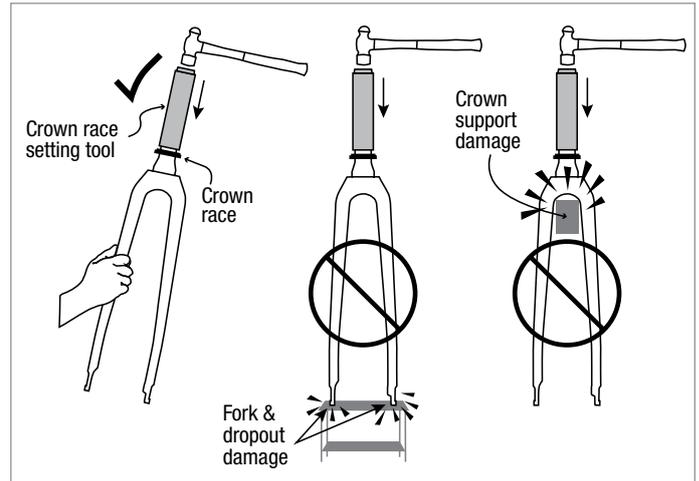

Figure 2
**▲ WARNING:** Do not place the fork on the dropout tips or support the fork in the crown area while installing the crown race. Doing so can damage the fork (Fig.2).